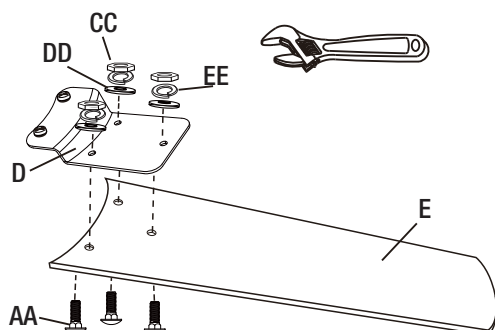

Figure 6
- Mount the blade holders (D) to the fan blades (E) using the square neck screws (AA), hex nuts (CC), spring washers (EE) and flat washers (DD) provided - 3 each per blade (Figure 6).